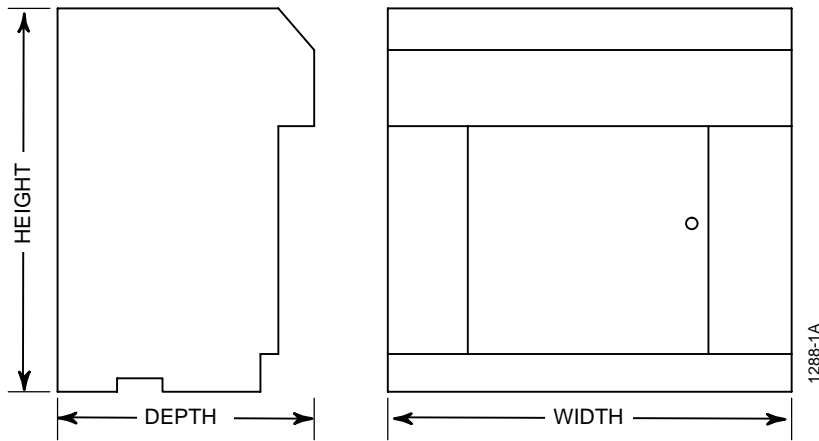

**Figure 3-5. Cabinet Dimensions –
- Cabinet Dimensions – Figure 3-5